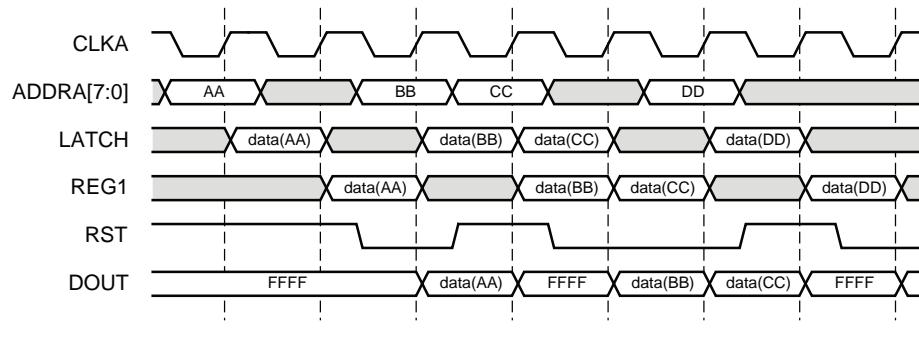
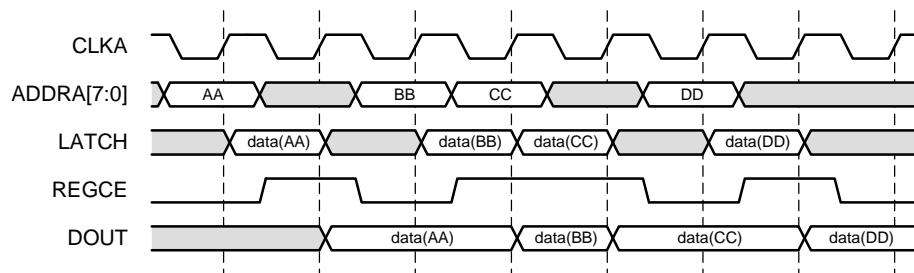

Figure 3-20: Flow Control Using RST
Figure 3-21: Flow Control Using REGCE
The combination of the enable (EN), reset (RST), and register enable (REGCE) pins allow a wide range of data flows in the output stage. Figure 3-20 and Figure 3-21 are examples on how this can be accomplished. Keep in mind that the RST and REGCE pins apply only to the last register stage.
Figure 3-20 depicts how RST can be used to control the data output to allow only intended data through. Assume that both output registers are used for port A, the port A reset value is 0xFFFF, and that EN and REGCE are always asserted. The data on the block RAM memory latch is labeled LATCH, while the output of the block RAM embedded register is labeled REG1. The output of the last register is the output of the core, DOUT.
**Figure 3-21** depicts how REGCE can be used to latch the data output to allow only intended data through. Assume that only the memory primitive registers are used for port A, and that EN is always asserted and RST is always deasserted. The data on the block RAM memory latch is labeled latch, while the output of the last register, the block RAM embedded register, is the core output, DOUT.